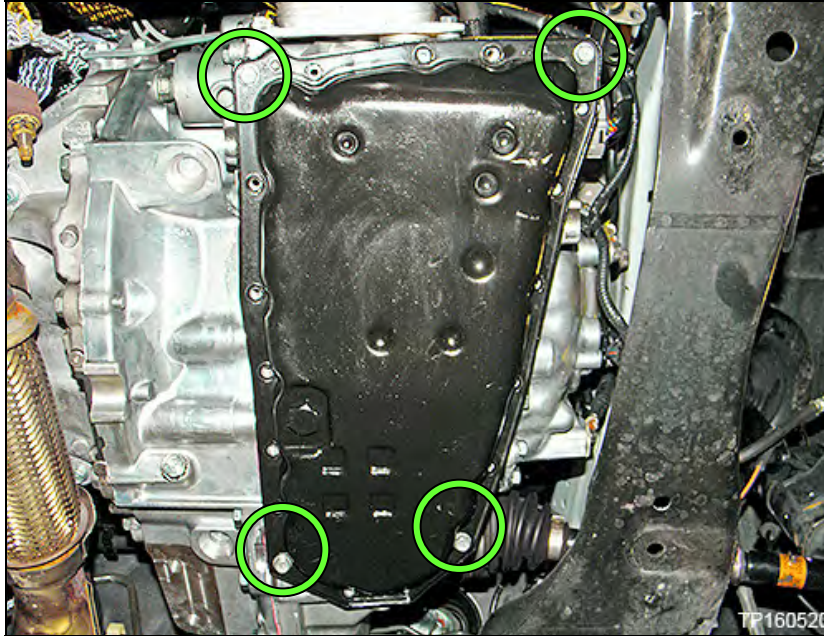

Figure 1B
1. Temporarily install the oil pan gasket and oil pan with four oil pan bolts to corners of the oil pan, hand tight (Figure 1B).